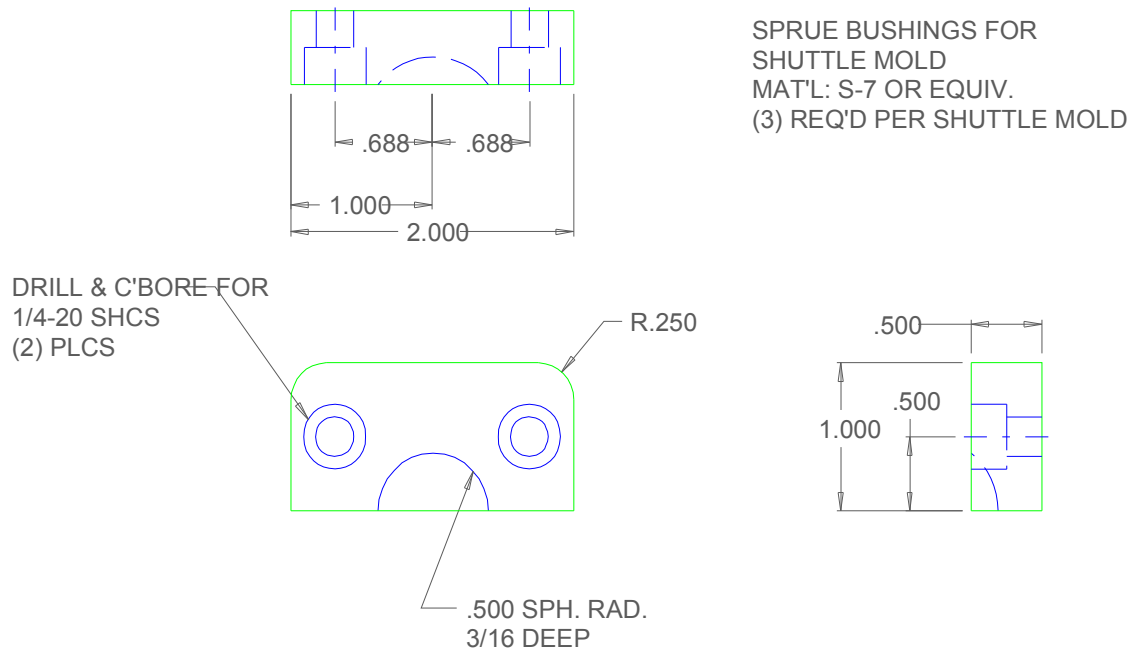

Figure 4.5a
- 4.4.11 All Shuttle Molds must have ALCO Standard Shuttle Mold Sprue Bushing. See figure 4-5a